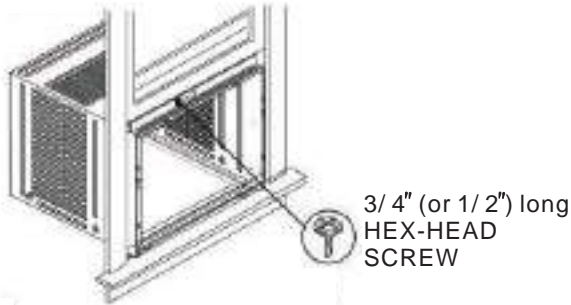

Fig.17A
4. Attach the top angle to window frame: Use a 3/32" drill bit to drill one hole through the hole in the middle of top angle into the window frame, and drive one 3/4" (or 1/2") HEX-HEAD locking screw through hole in the middle of top angle into the window frame as shown (Fig.17A)